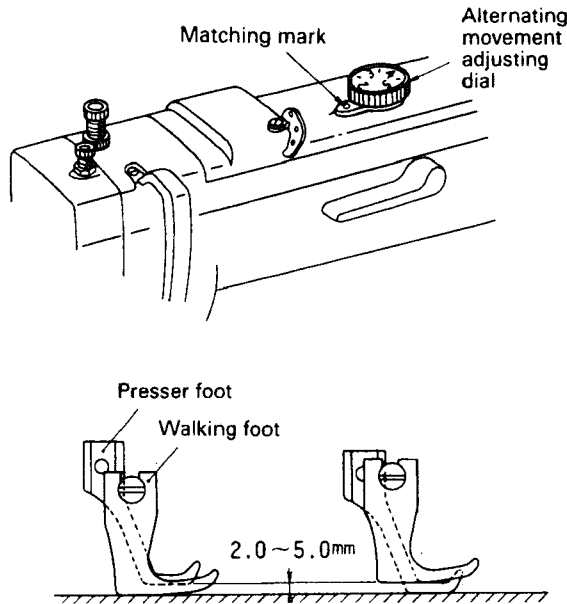

Fig.23
1) Adjustment of alternating movement (Fig23):